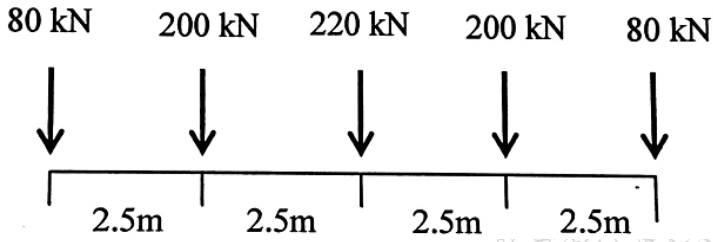

Fig.7
- Q.8 A train of 5 wheel loads as shown in figure 7. Crosses a simply supported beam of span 24.5m. Calculate maximum positive and negative shear force values at center of span and absolute maximum B.M. anywhere in span. 15